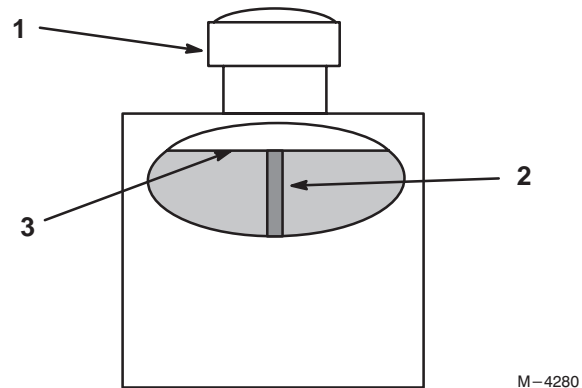

Figure 10
2. Clean area around filler neck of hydraulic tank (Fig. 10).
3. Remove cap from filler neck. Look inside to check if there is fluid in the reservoir. (Fig. 10).
Note: Fluid level should be to the top of the baffle when fluid is warm (Fig. 10).